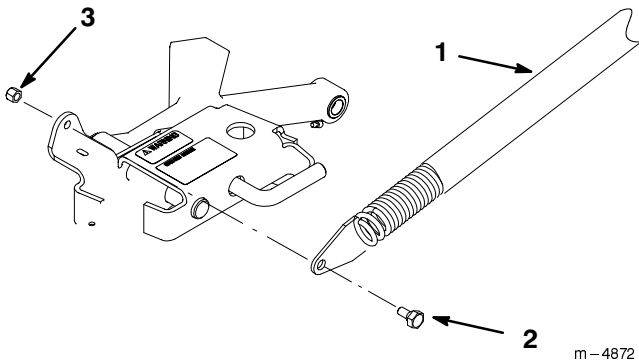

Figure 33
- Secure spring end plate assembly to carrier frame with shoulder bolt (3/8 in. x 7/8 in.) and locknut (3/8 in.) (Fig. 33).